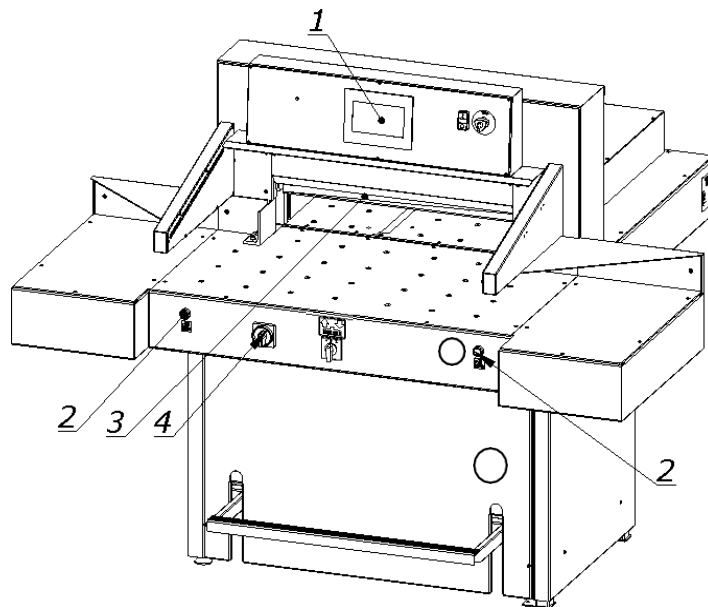

Figure 21.
8.1.1.1 Select the "knife change" function on the touchscreen control panel (1, fig. 21) ("programming manual").
8.1.1.2 Pressing the push buttons (2, fig. 21) at the same time, start the cutting cycle. The knife (3) is held in the lower position
8.1.1.3 Switch off the power supply of the electrical system by turning the main switch knob (4, fig. 21) to the "0" position